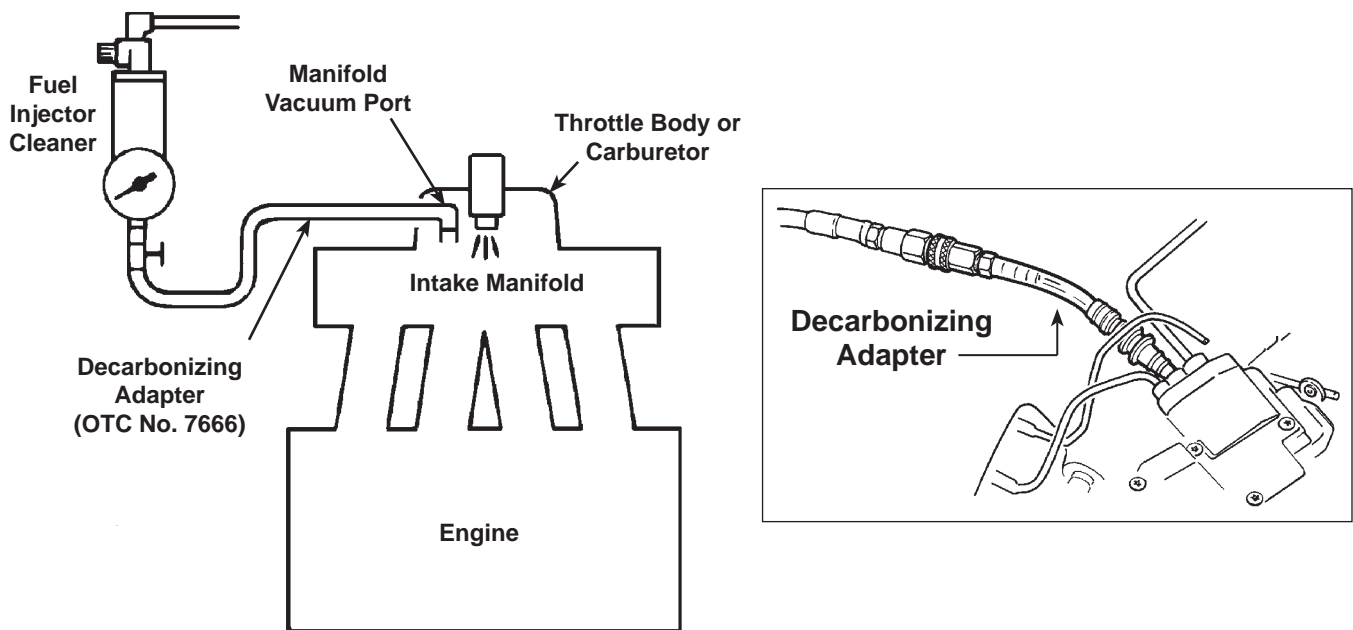

Figure 2
8. Connect the decarbonizer hose / adapter to the manifold vacuum port. See Figure 2.